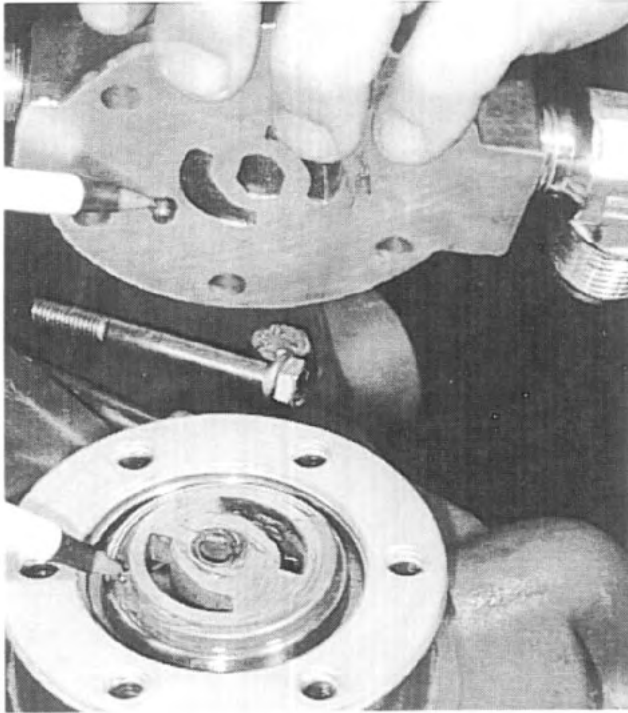

Fig. 116
9. Install the oil pump cap onto the spacer ring and pump cartridge assembly. *See Fig. 116.*